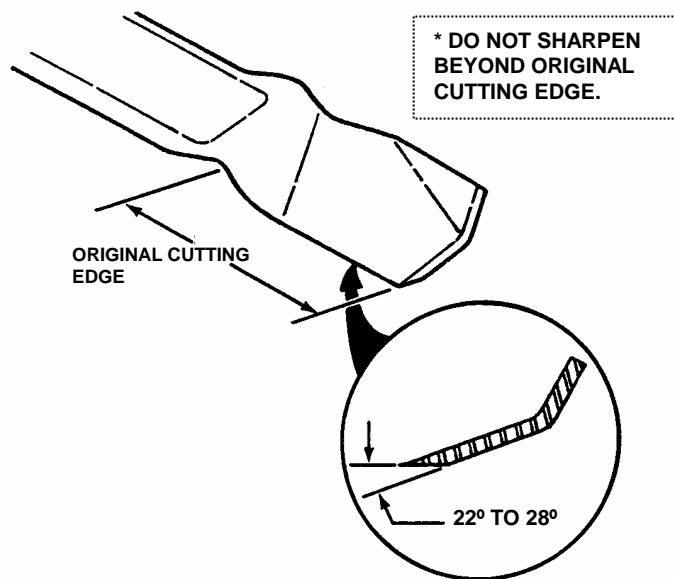

FIGURE 4.3
4. Sharpen blade on a grinding wheel at an angle of 22 to 28 degrees. DO NOT sharpen beyond original cutting edge. See Figure 4.3.